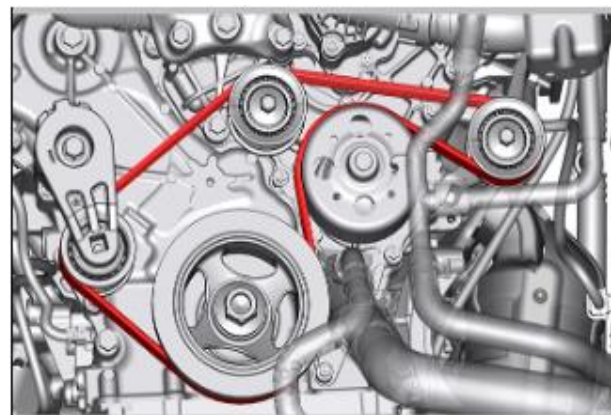

Figure 8 – Serpentine Belt Routing
9. Install the left idler pulley onto the front center of the engine and tighten the bolt to 24N·m (18Ft. Lbs.) (Figure 8).
10. Install the right idler pulley bracket onto the right side of the engine and tighten the bolt to 24N·m (18Ft. Lbs.) (Figure 8).
11. Install the right-side idler pulley and tighten the bolt to 24N·m (18Ft. Lbs.) (Figure 8).
13. Route the **NEW** serpentine belt around all the pulleys except the idler pulley (Figure 8).